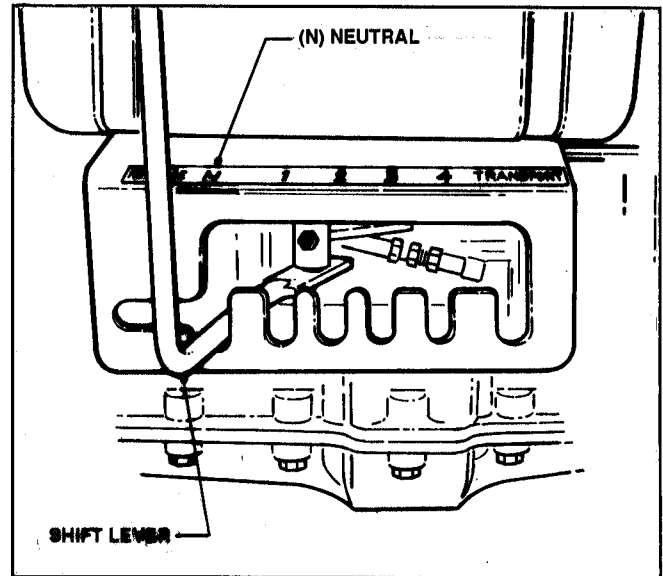

FIGURE 4
3. Place SHIFT LEVER in "NEUTRAL" (N) position. See Figure 4.